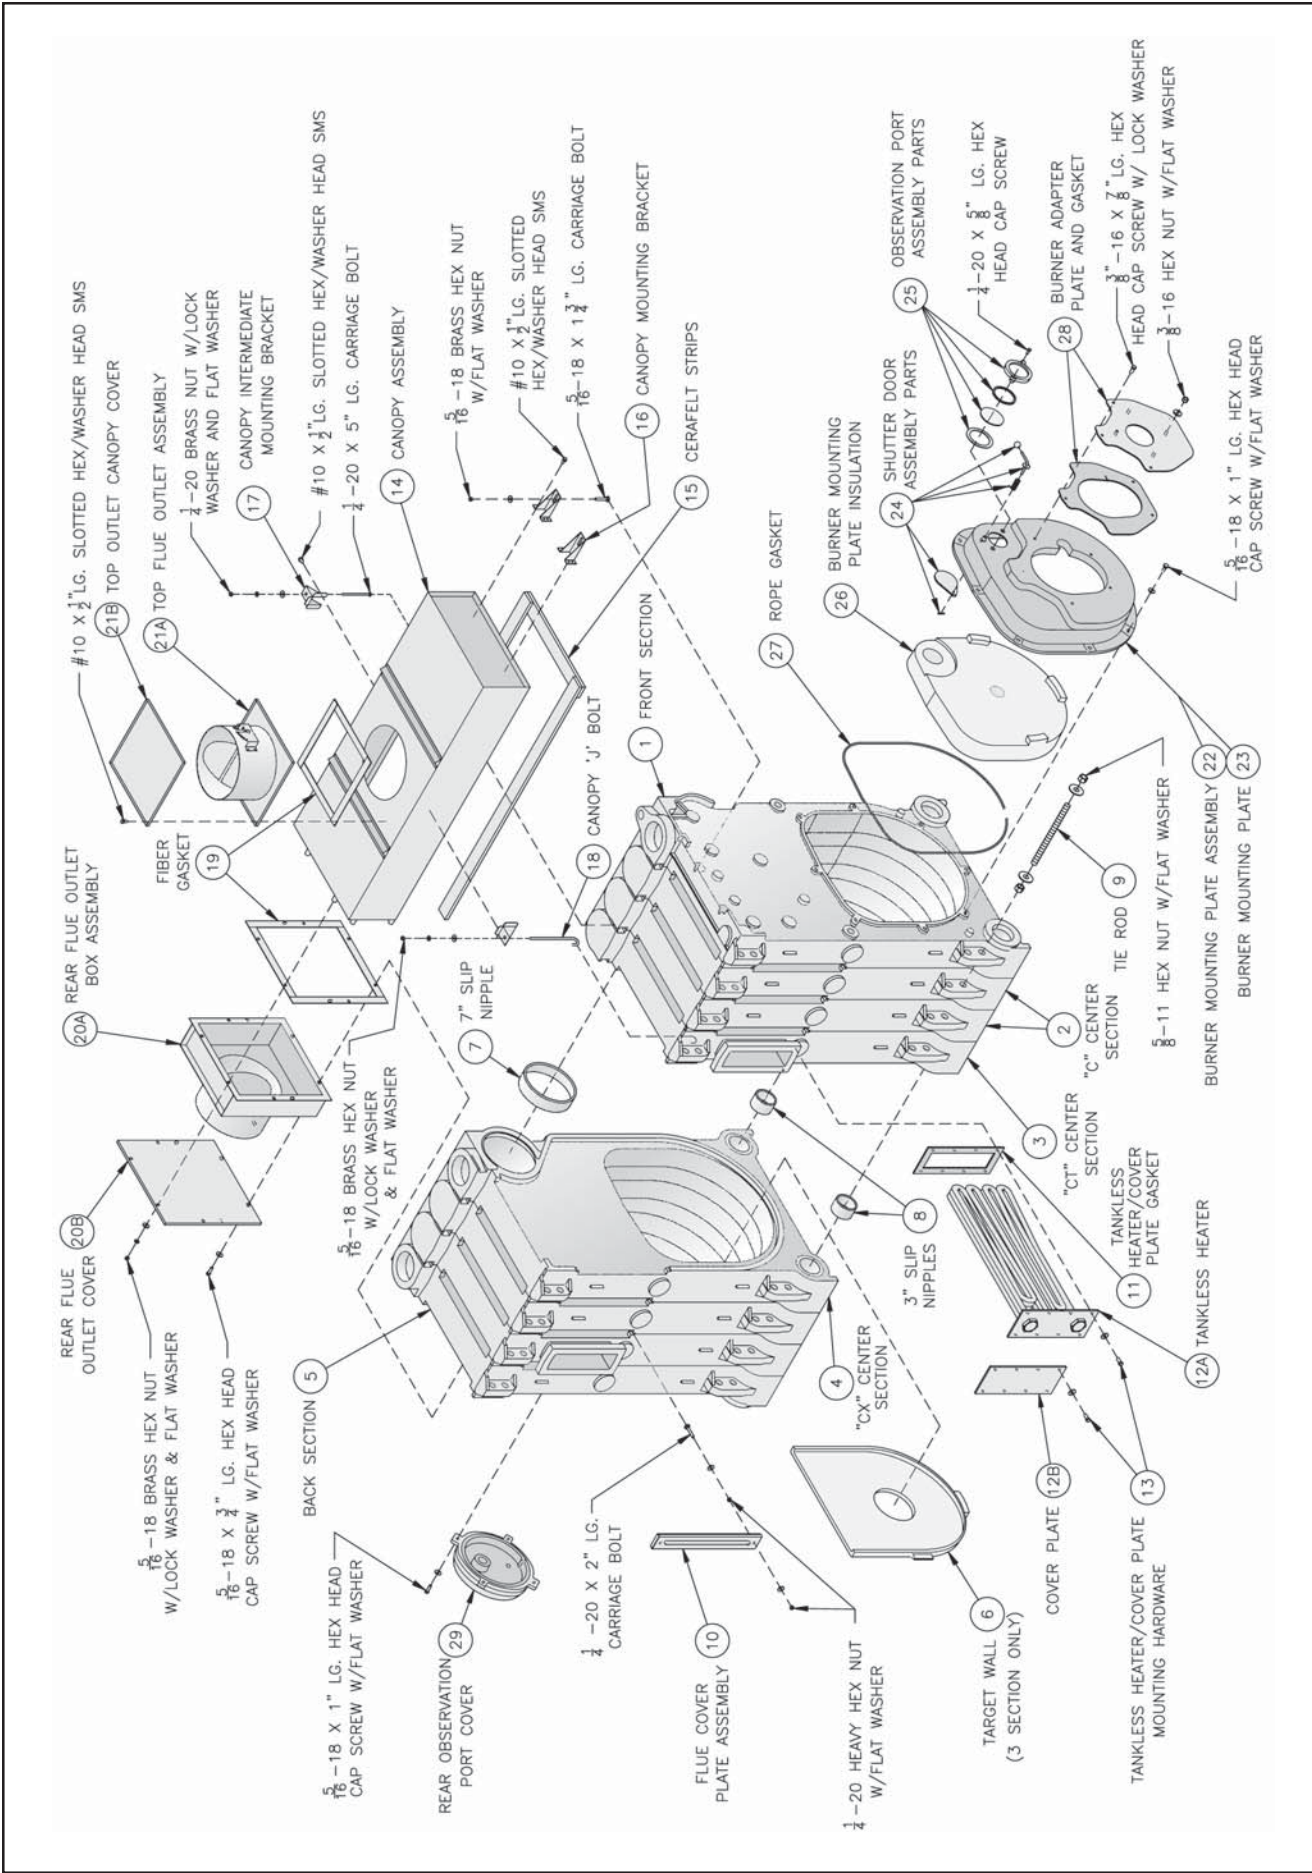

Figure 16: Bare Boiler Assembly
Refer to Figure 16.
11. RTC Bracket - install bracket in top right corner of front panel with four (4) #8 x 3/4" self tapping screws.
F. BURNER MOUNTING PLATE - Refer to Figures 16 and 23.
3. Engage bottom slot on burner mounting plate with matching bolt in bottom tapping of front section. Align mounting holes and fasten the mounting plate to the boiler sections with seven (7) remaining 5/16" cap screws and washers. Fully tighten all bolts.